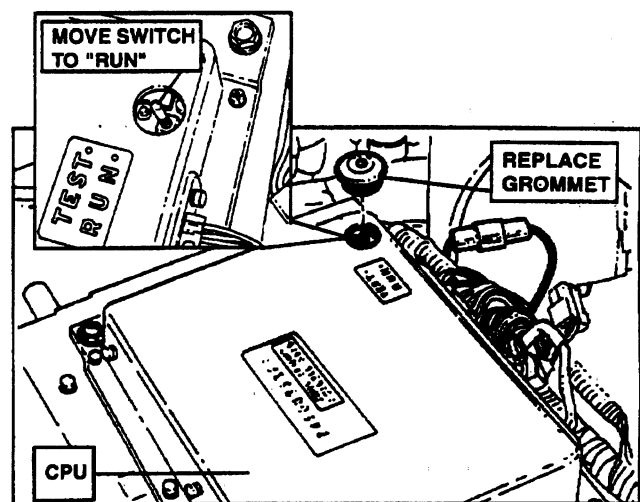

FIGURE 6.34
26. Move the CPU "TEST-RUN" Switch in the "RUN" position and replace grommet. See Figure 6.34.